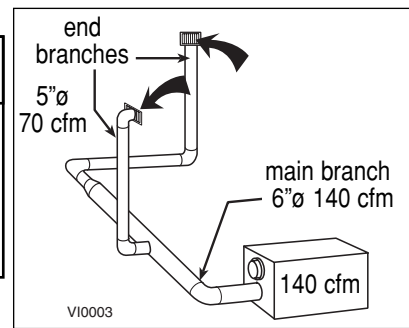

figure 8
**Problem:** My installation requires two exhaust registers (one for the kitchen, one for the bathroom). I will connect these registers to a main duct which will connect to the unit (high speed performance value of 140 cfm). What size of duct should I use for the main exhaust duct and for the two end branches leading to the registers? (See figure 8.)